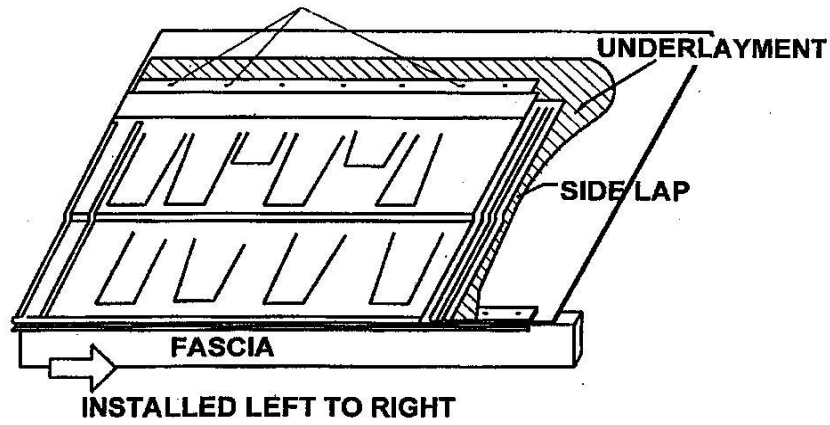

Figure 1. Installation Details
Shingles: The steel shingles must be installed starting at the eaves. A starter strip is installed at eaves. Full panel bottom edge is interlocked into the starter strip. The panel's side laps must be overlapped from left to right. Each panel is fastened to the roof deck with a minimum of seven (7) No. 9 x 1-1/2" long corrosion resistant HWH wood screws located 2" from each end and spaced 7" on center between the edge fasteners. The fasteners must be of sufficient length to penetrate into and completely through the roof deck. Refer to Figure 1 for installation details.